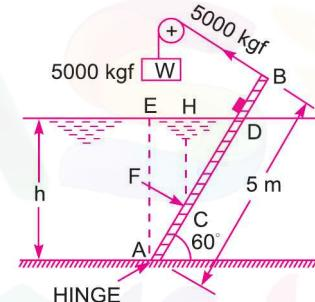

Fig. 3.22
**Problem 3.17** A rectangular gate  $5 \text{ m} \times 2 \text{ m}$  is hinged at its base and inclined at  $60^\circ$  to the horizontal as shown in Fig. 3.22. To keep the gate in a stable position, a counter weight of  $5000 \text{ kgf}$  is attached at the upper end of the gate as shown in figure. Find the depth of water at which the gate begins to fall. Neglect the weight of the gate and friction at the hinge and pulley.